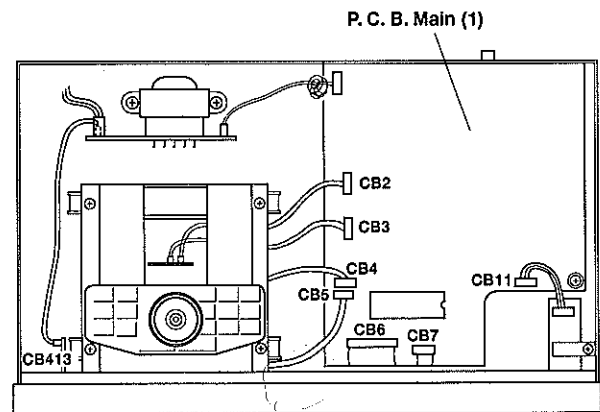

Fig. 2
- a. Remove 4 connectors (CB6, CB7, CB11, CB413) in Fig. 2.
- a. Remove 4 connectors (CB2, CB3, CB4, CB5) in Fig. 2.